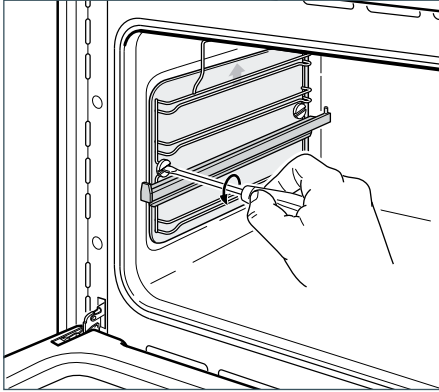

Fig.53 Removing the side racks and catalytic panels
The catalytic panels are covered with a special microporous enamel which absorbs and does away with oil and fat splashes during normal cooking over 200 °C. If, after cooking very fatty foods, the panels remain dirty, heat the oven on maximum for an hour to an hour and a half, and they will self-clean. The side panels are reversible. Make sure that you replace them with the arrow up, and on the correct side. To remove the side catalytic panels, you first need to unscrew the side racks. See Fig. 53.
- 1 Remove the side racks by unscrewing the fixing screws (Fig. 53).